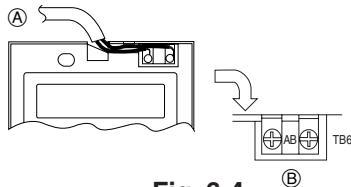

Fig. 6-4
① Wall
② Conduit
③ Lock nut
④ Bushing
⑤ Switch box
⑥ Remote controller cord
⑦ Seal with putty
⑧ Wood screw
2) Connecting procedures (Fig. 6-4)
① Connect the remote controller cord to the terminal block.
② A To TB5 on the indoor unit
③ TB6 (No polarity)